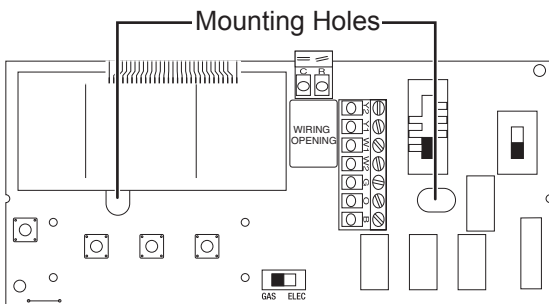

Figure 4
- Place thermostat against the wall at desired location. Make sure wires will feed through opening (Figure 4) on base of thermostat.
- Mark placement of mounting holes (Figure 4). Set base aside.